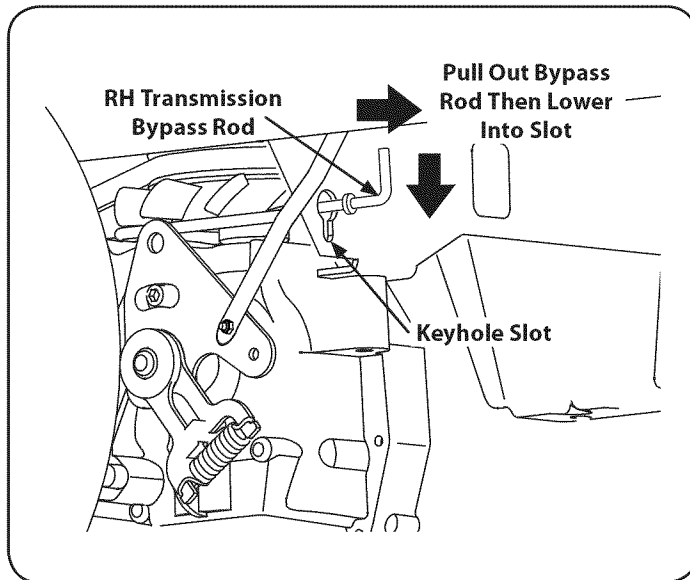

Figure 32
1. From just in front of the two rear tires, locate the transmission bypass rods. Refer to Figure 32.